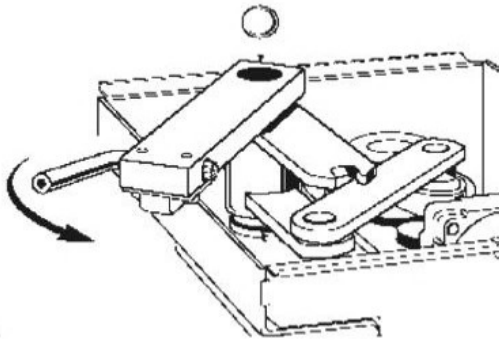
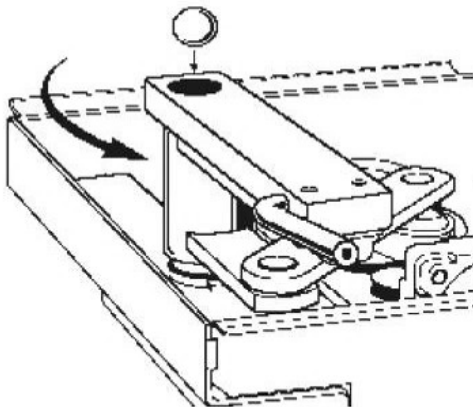

Fig.4
fig. 5
- Mount the arm which will be later welded to the gate and insert the bearing ball (fig 4, fig. 5).